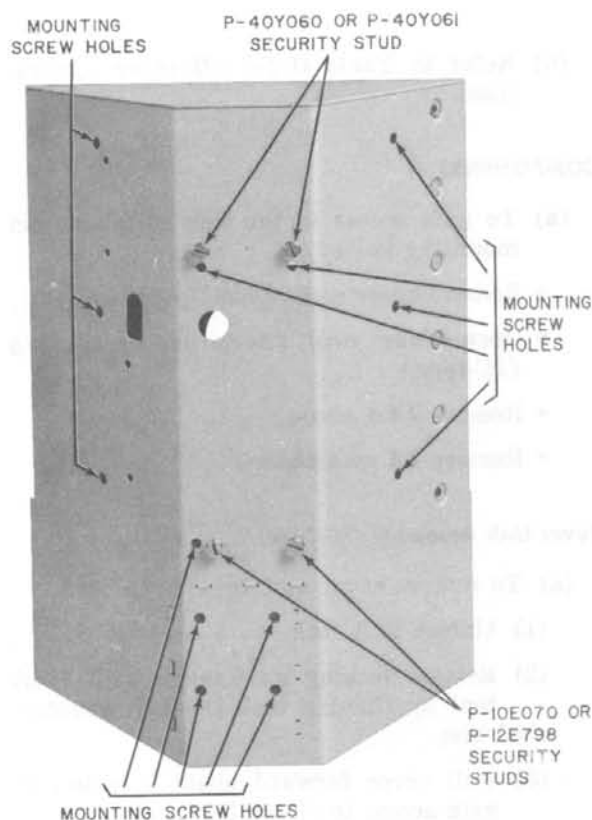

Fig. 9 — Location of Mounting Screw Holes and Security Studs in 2C-Type
- (b) Refer to Fig. 9 for location of mounting screw and security stud holes.